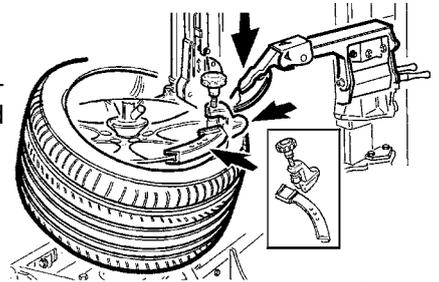

Fig. 1
- pull the retractable claw up away from working area by lifting the handle ref. **23**; up (fig. 1).
If necessary, press the tyre side by the upper bead loosening roller to help the correct positioning and locking of the clamp (fig. 1).